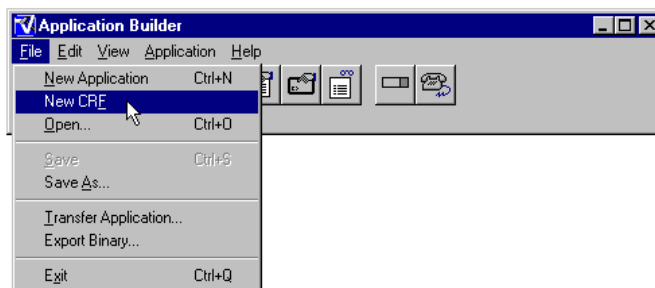

Figure 1-29 File Menu - New CRF Command
1. Choose **New CRF** from the **File** menu (Figure 1-29).